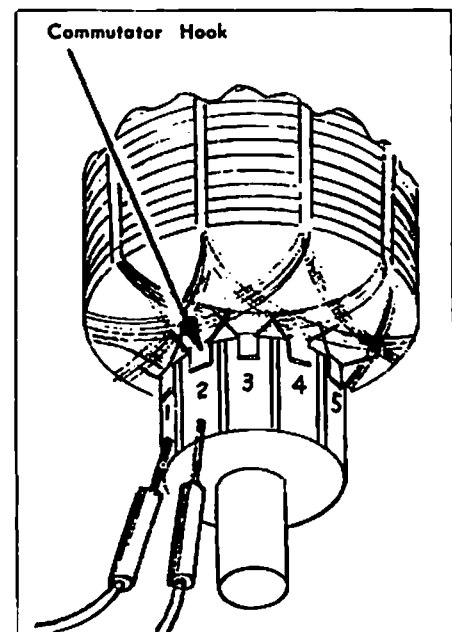

Figure 3-1
- B. **Open** – A bar to bar check with the test light will indicate an open armature (Fig. 3-1). If lamp does not light between any two adjacent commutator bars, an open armature is indicated.